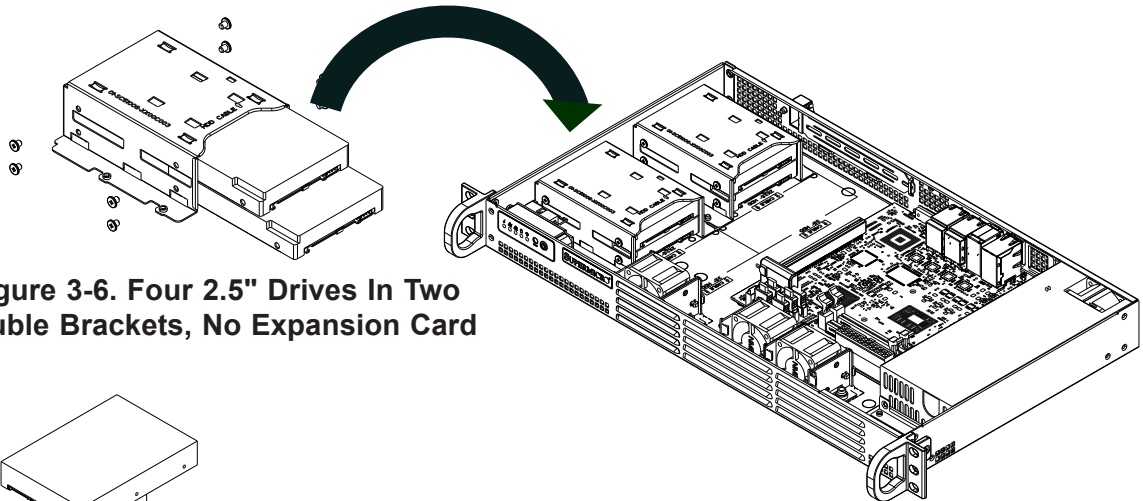

Figure 3-6. Four 2.5" Drives In Two Double Brackets, No Expansion Card
3. Place the drive and bracket into the chassis as illustrated in Figure 3-6 or Figure 3-8.